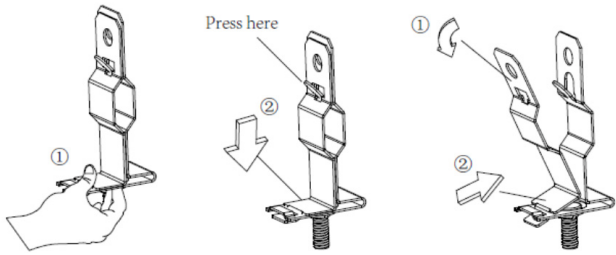

Fig. 5.1
2. Detach both sides of the bracket, press the end of the bracket down, and push the clip. (Fig. 5.1)